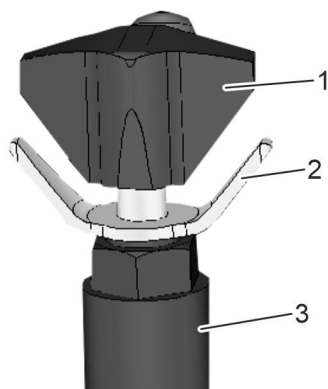

Fig. 28: Pressure adjustment valve
2. ➔ Release the adjustment lock (Fig. 28/2). To do so, turn it anti-clockwise.
3. ➔ Turn the knob (Fig. 28/1) anti-clockwise. Open completely.